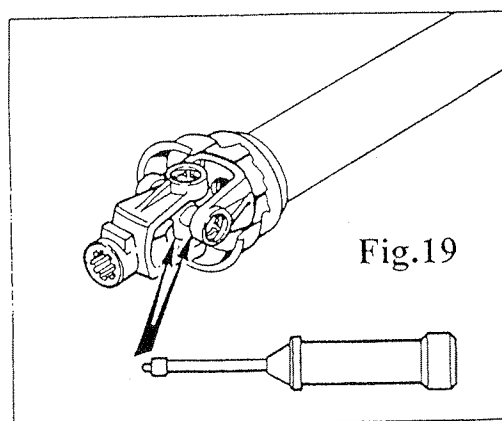

Fig.19
- Ingrassare le crociere del cardano (fig.19)
- grease the joint spider of the drive-shaft (fig.19)